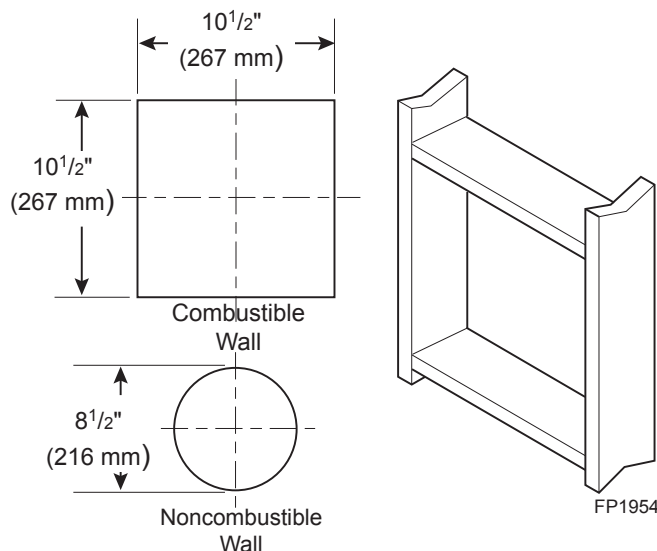

Figure 25 - Exterior Wall Framing Dimensions for 5" x 8"
Combustible Exterior Walls: Cut a 10½"H x 10½"W square hole through the exterior wall frame. *Figure 25*
2. The center of the hole should line up with the center line of the horizontal rigid vent pipe end. Allow ¼" minimum rise per foot. *Figure 25*